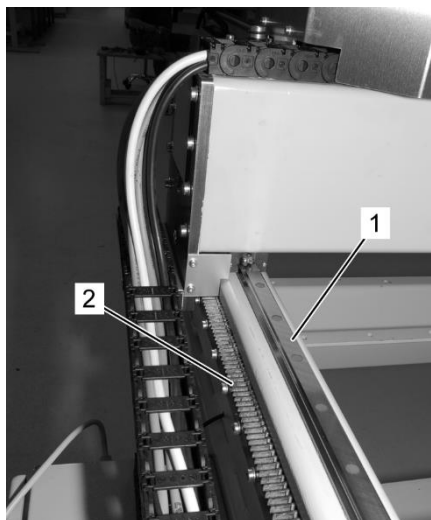

Fig. 37: X-axis
2. Grease both sides of the X-axis linear guides (Fig. 37/1) and racks (Fig. 37/2) with a light machine grease using a lint free cloth.